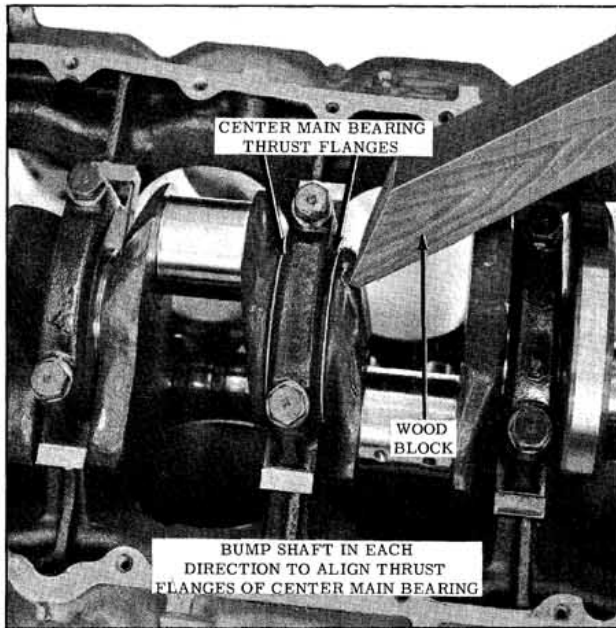

Fig. 3-102 Aligning Center Main Bearing Flanges
4. With a block of wood (Fig. 3-102) bump shaft in each direction to align thrust flanges of center main bearing.